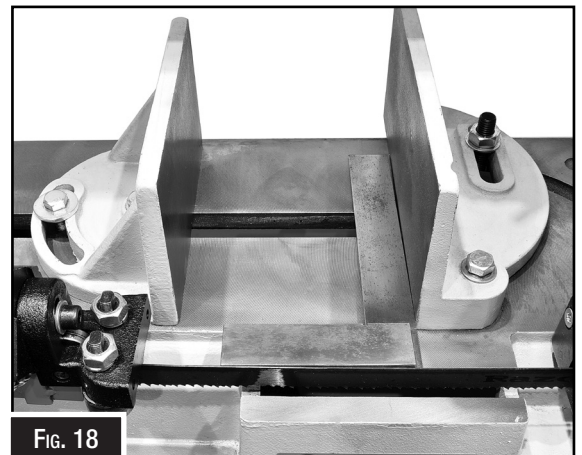

FIG. 18
2. Place a machinist's square as pictured in (Fig.18) square should lie along entire length of vice and blade without a gap.